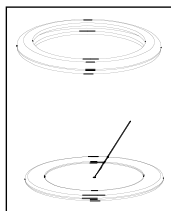

Fig. 5
NETTOYAGE DE LA PROTECTION DE VALVE (J) – FIG. 5.